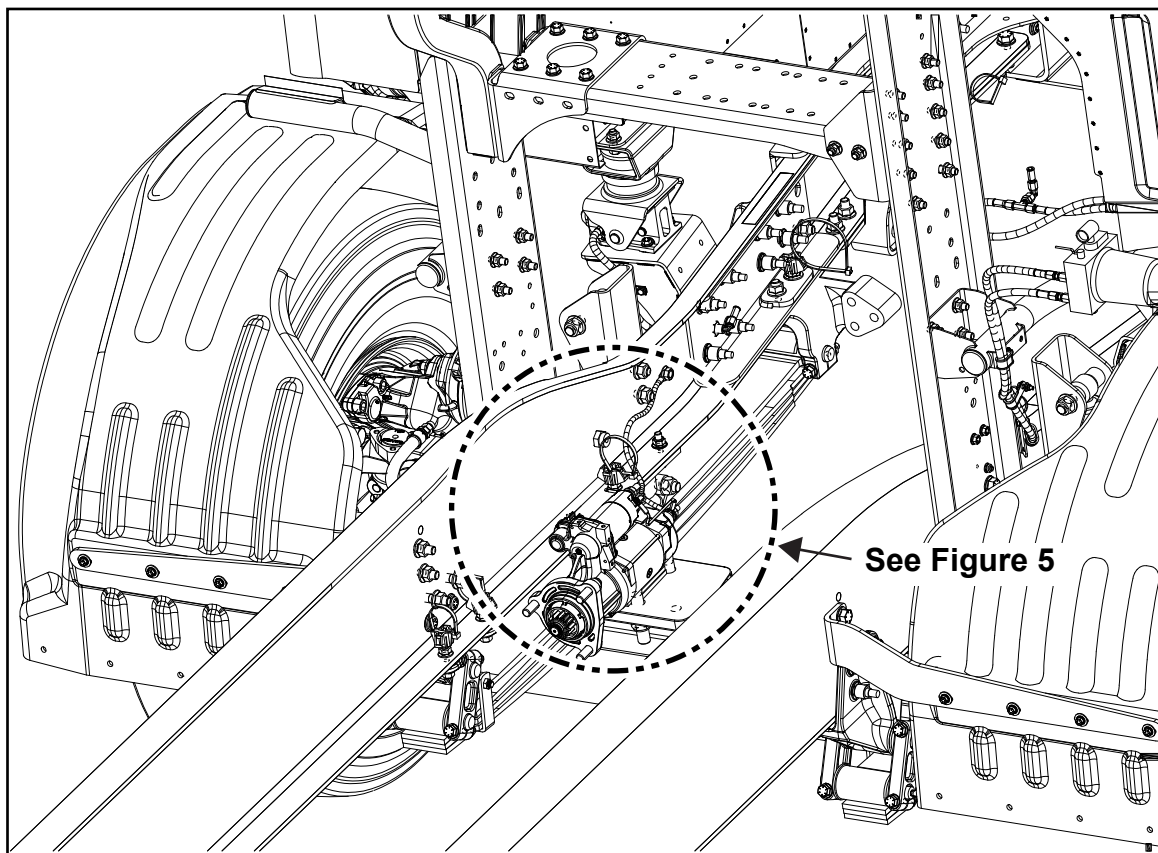

Figure 4, Starter Left Inboard Side (Harnesses Removed for Clarity)
6. Install the A2290223-002 nut plate using (6) FE410162AW16 bolts and tighten to 200 lb-ft of torque (see *Figures 4 and 5*).
7. Install (2) FE410137AW14 bolts and tighten to 37 lb-ft of torque (see *Figures 4 and 5*).
8. Locate the grounding cable at the forward end of the starter, remove the bolt attaching the grounding cable to the frame rail and the nut attaching the grounding cable to the starter, and set aside the nut and bolt for re-installation (see *Figures 4 and 5*).
9. Remove the grounding cable and discard (see *Figures 4 and 5*).